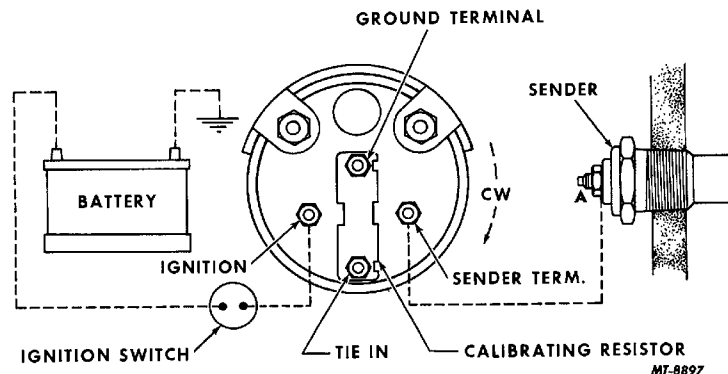

Fig. 27. Oil Temperature Gauge Circuit
The calibrating resistor connects the ground terminal with the tie-in terminal, Fig. 27.
1. Disconnect sender wire at sender unit (point A), Fig. 27.
5. Disconnect sender wire at sender terminal on gauge, Fig. 27.